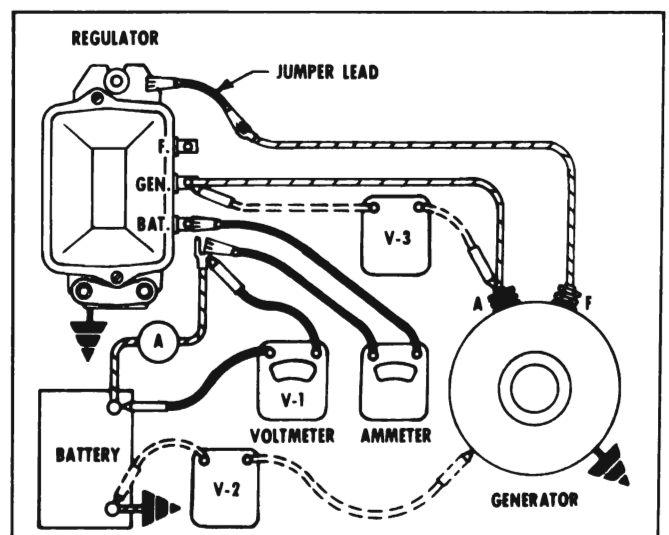

Figure 10-11—Testing Charging Circuit Voltage Drop
1. Make sure that all accessories are turned off. Also make sure that ammeter is in place and that field lead is grounded. See Figure 10-11.
3. Measure voltage drop at V-1, V-2, and V-3. Shut engine off immediately after taking readings. Readings V-1 and V-3 should not exceed .3 volt each. Reading V-2 should not exceed .1 volt. See Figure 10-11.